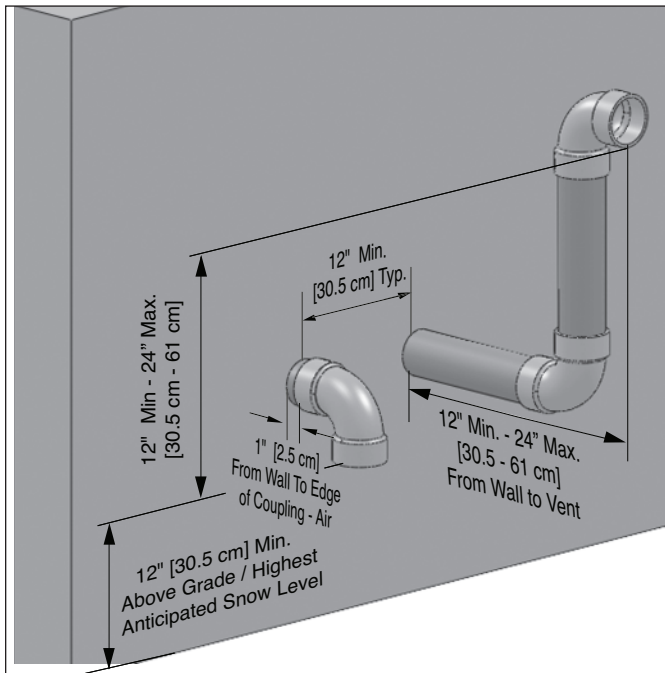
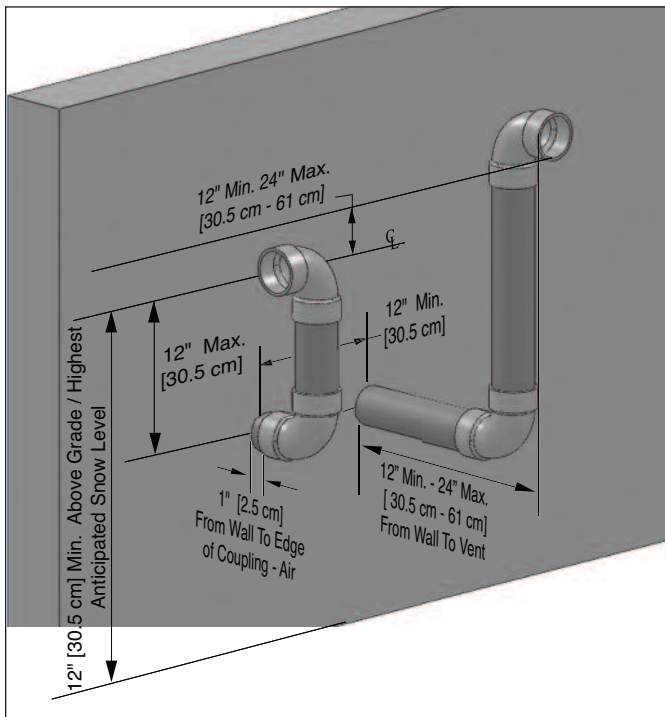
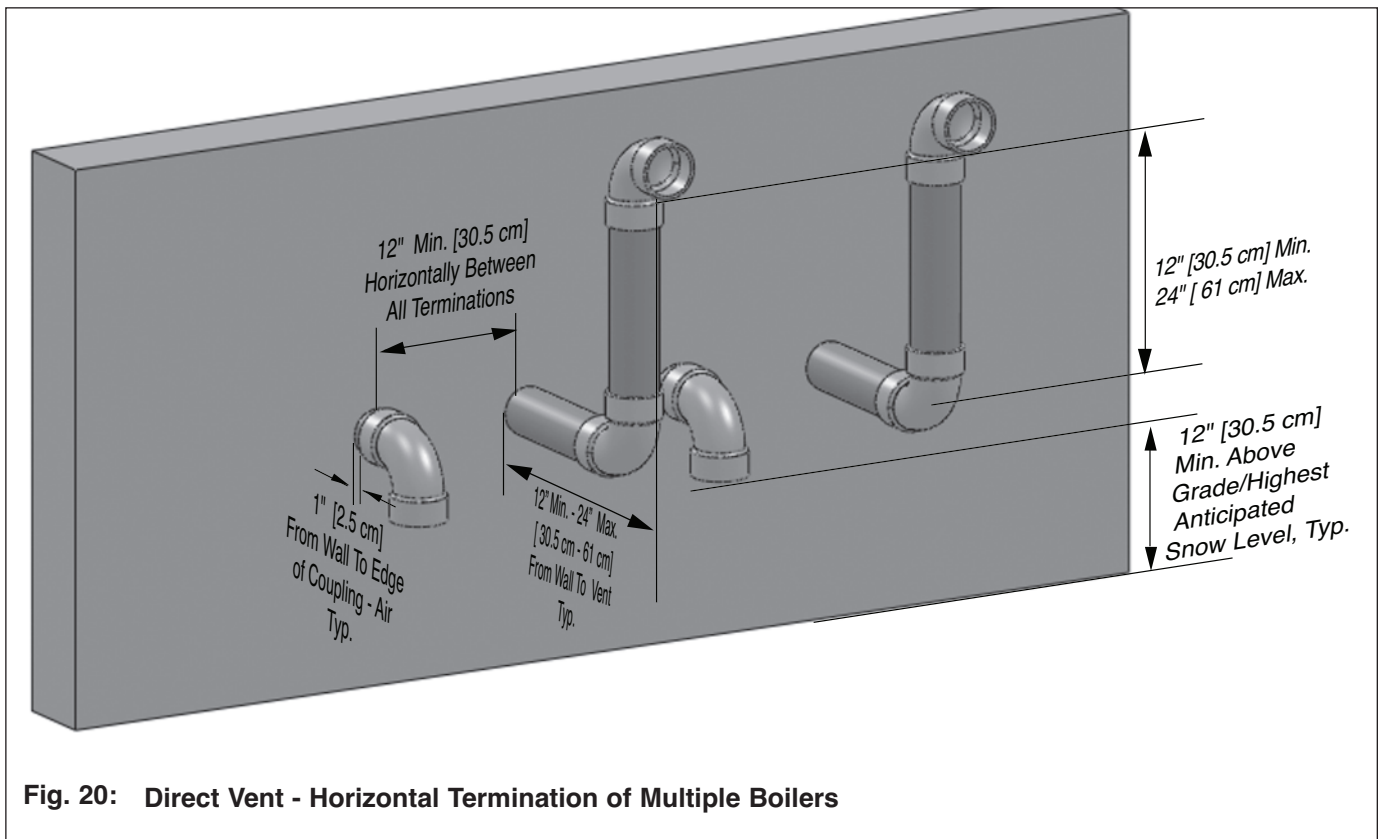

Fig. 8: Direct Vent - Sidewall Termination of Vent and Combustion Air Piping
Fig. 10: Direct Vent - Sidewall Snorkel Termination of Vent and Combustion Air Piping
Fig. 20: Direct Vent - Horizontal Termination of Multiple Boilers
To reduce the potential of the combustion air inlet freezing up it is recommended to separate the vent and air terminations in both a horizontal and vertical plain as shown in figures 8 through 12 on pages 13 and 14.
2. The combustion air pipe must terminate using a 90° elbow directed away from the vent termination. The combustion air termination must be installed 12" [30.5 cm] minimum above grade / highest anticipated snow level and as shown in Figs. 8 through 15 pages 13 & 14.
The combustion air termination can be placed on either side of the vent termination. The vent and combustion air terminations must be a minimum 12" [30.5 cm] apart. The vent and combustion air terminations are not required to be in the same pressure zone. The combustion air termination must be directed away from the vent see Figs. 10 through 15 pages 13 & 14. The combustion air termination must be directed down for Figs. 8 and 9 page 13.
- Using a 90° elbow as shown in Figs. 8 or 10, page 13.
**Do not extend the vent pipe outside the sidewall beyond the dimensions shown in Figs 8 through 15. Extended exposure of the vent pipe could cause condensate to freeze and block the vent pipe.**
4. The combustion air and vent pipe center lines must be a minimum of 12" [30.5 cm] apart as shown in Figs. 8 through 15 pages 13 & 14.
7. The edge of the combustion air termination coupling must extend 1" [2.5 cm] beyond the exterior wall as shown in Figs. 8 through 15 pages 13 & 14.
3. Locate the vent and combustion air pipe penetrations to provide clearances as described in Figs. 8 through 15 pages 13 and 14.
2. The combustion air pipe must terminate using a 90° elbow as shown in Figs. 8 through 15 pages 13 and 14.
- Using a 90° elbow as shown in Figs. 8 or 10 page 13.
**Do not extend the vent pipe outside the sidewall beyond the dimensions shown in Figs. 8 through 15. Extended exposure of the vent pipe could cause condensate to freeze and block the vent pipe.**
2. The wall penetration of the vent and combustion air pipe should be such that the combustion air inlet is a minimum 12" [30.5 cm] from the adjacent vent pipe of the other boiler for installations in the U.S as shown in Fig. 20. For installations in Canada, provide clearances as required by CAN/CSA B149.1.
Fig. 20 shows one option for vent and combustion air terminations of multiple PRESTIGE boilers. Either termination option shown in Figs. 8 or 9 page 13 can be used for multiple PRESTIGE boilers. The 12" [30.5 cm] minimum distance between centerlines of the combustion air and vent piping must be maintained for any chosen option.
Reference Figs. 8 or 9 page 13 for the configuration dimensions for the vent and combustion air inlet terminations for each unit installed in a multiple installation.
2. The combustion air piping must terminate with a 90° elbow. Fig. 21 shows a snorkel termination option. The combustion air pipe can also terminate using a 90° elbow directed down or to the left or right as shown in Fig. 8 page 13 or Fig. 13 page 14. The termination must be installed 12" [30.5 cm] minimum above grade / highest anticipated snow level and as shown in Fig. 8 page 13 or Fig. 13 page 14 or Fig. 21.